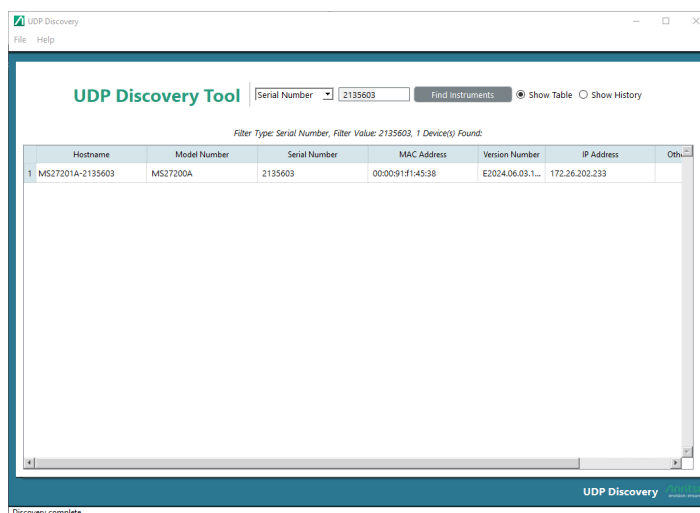

Figure 1-5. Locate Instrument
4. Click the Find Instruments bar. If the instrument is located, the instrument details will be displayed as shown in Figure 1-5.
Show Table : Click this radio button to display the device connection details as shown in Figure 1-5.